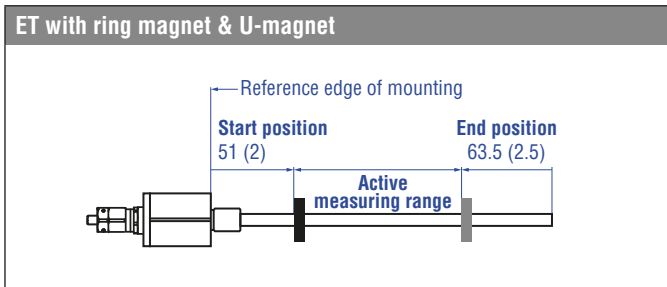

Fig. 13: Start and end positions of magnets
5. Check the pre-set span start and end values of the measuring range (Fig. 13) and correct them via the customer's control system if necessary, or via the MTS Sensors service tools. The operation of the service tools is described in detail on the following pages.